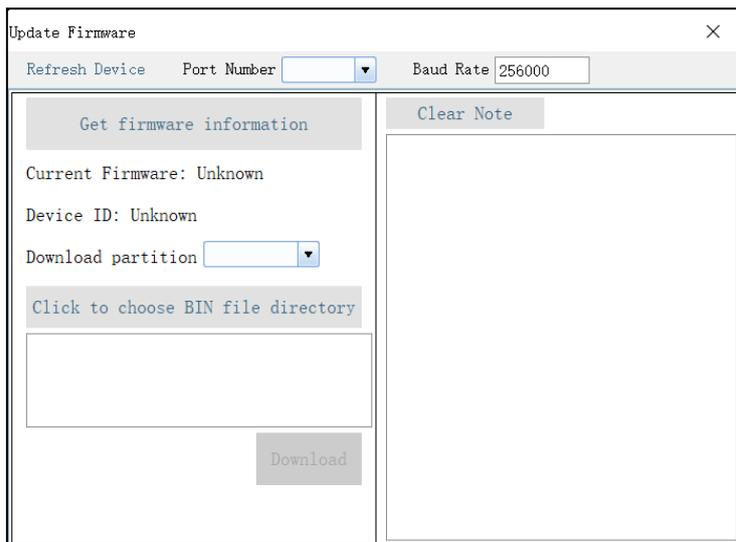

Figure 5-6 Update Firmware interface
- Step 1: Ensure that the EVB1122 has programmed the bootloader firmware; connect the evaluation board and the host PC using a USB cable; Start the *EVB1122 Wave Configuration and Demonstration GUI*; Click the **Device** menu and the **Update Firmware** submenu in turn to open the Update Firmware window, as shown in Figure 5-6;